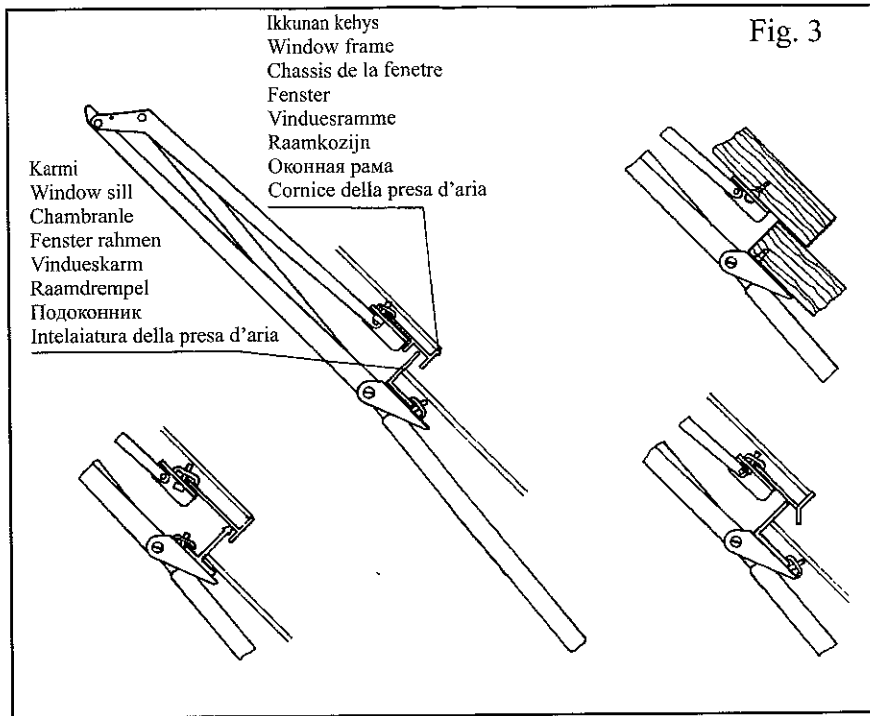

Fig. 3
- 2a. On most greenhouses made out of aluminium Fitting is done using the enclosed clamps (11) - se Fig.3. Start fittingFit one clamp loosely onto the windowbracket (10) of the opener using the enclosed screws. Choose the most suitable holes on the sillbracket of the opener and fit the second clamp onto this. Make sure that